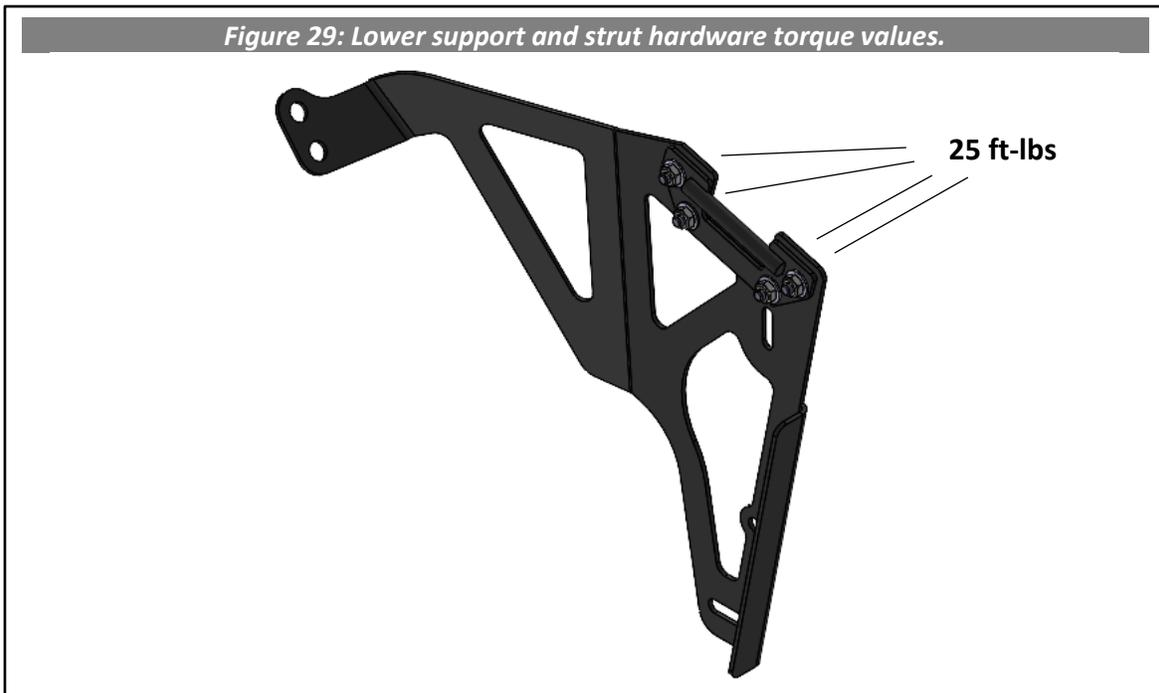

Figure 30: Swing frame hardware torque values.
- See **Figure 30** for a torque values diagram.